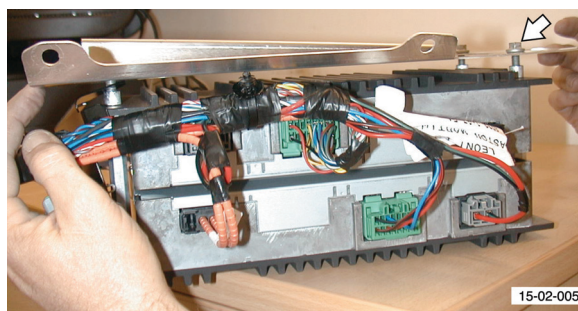

Fig. 3
12. Remove nuts and bolts (x4) that secure power amplifier to mounting plate and remove amplifier (see Fig. 3).